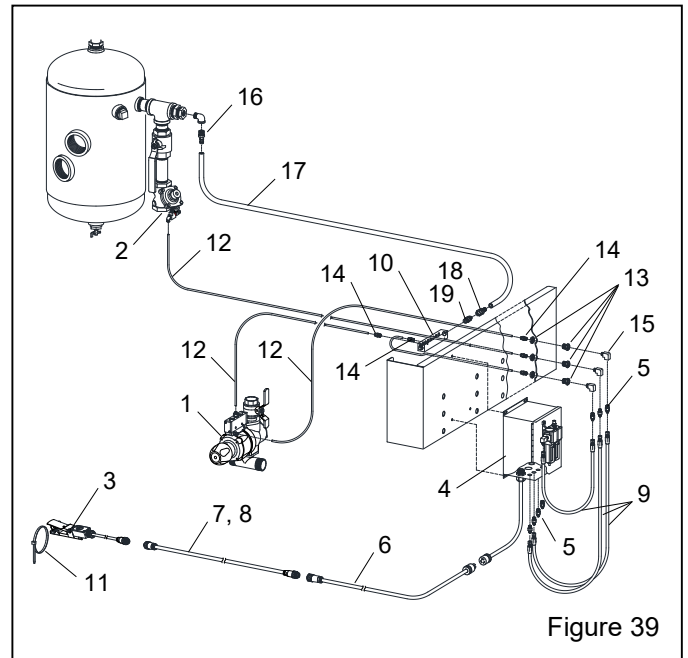

Figure 39
9.4 Electric Remote Controls – Figure 39